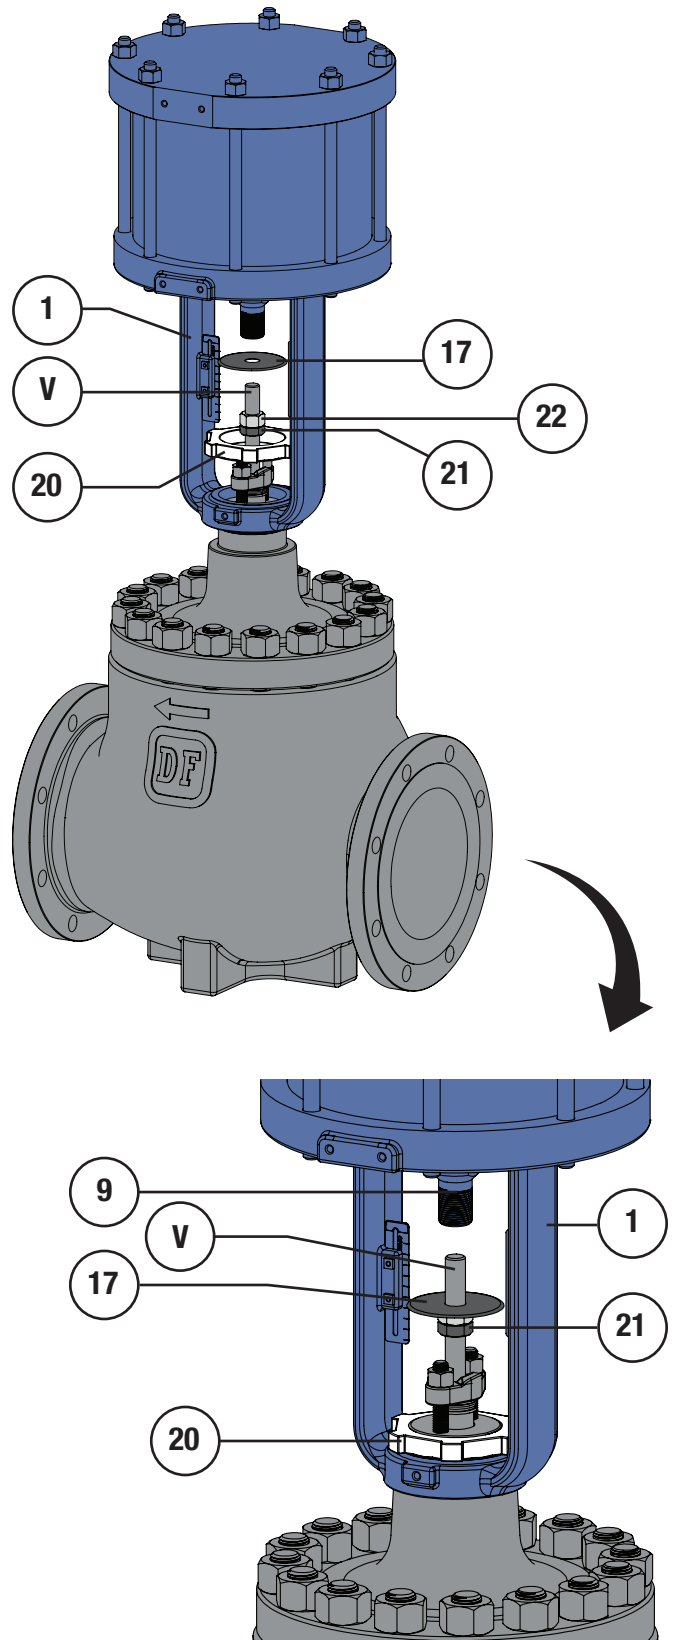

Figure 4 Size 113 Actuator Mounting (3-9/16" Yoke Boss)
- 4 Carefully lift and lower the actuator into place on the valve and orientate the actuator as shown in Figure 4. **NOTE:** For Size 113 actuators, the travel disc (Key 17) and yoke locknut (Key 20) must be passed through the window of the actuator and between the valve and piston rod (Key 9) when the actuator is being lowered. Refer to Figures 4 & 6.